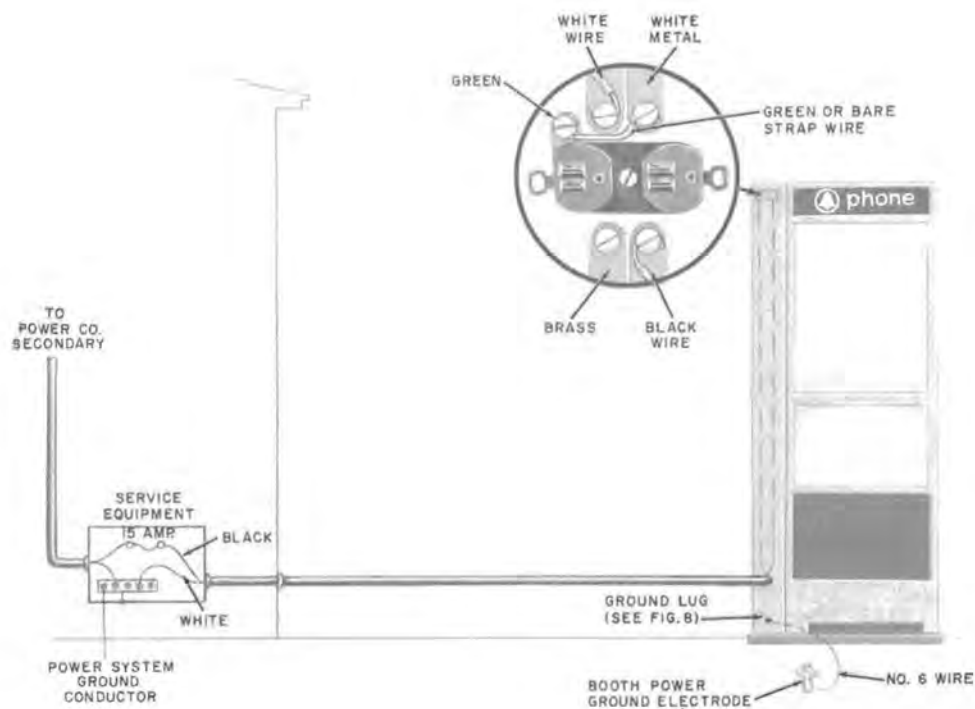

Fig. 15—2-Wire Extension of Branch Circuit to Booth By Means of Metal Circuit
8.06 Fig. 15 shows a branch circuit extended from a building without a third wire for power grounding at the booth. Where continuous metallic conduit is used, the conduit serves as ground conductor.